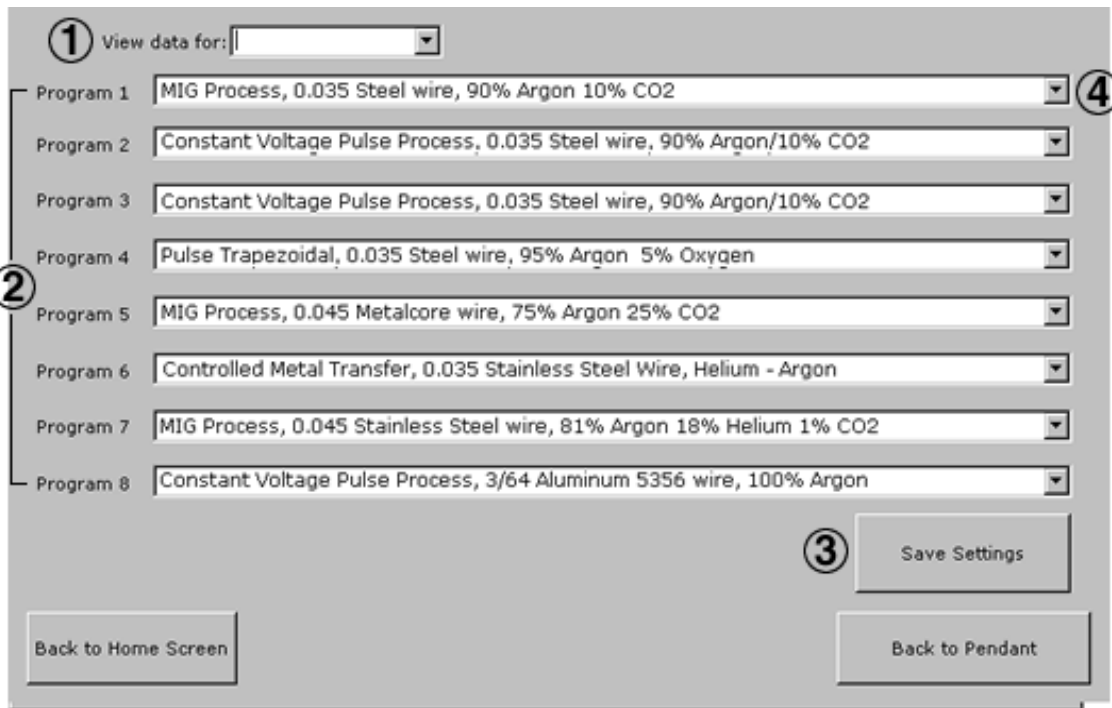

Figure 5 Program Selection Screen
The Miller Auto-Axcess DI has eight user definable weld programs (Figure 5). Each program can be configured for the process, wire size and type, and shielding gas.
- Using the stylus touch the down arrow button (4) on the right of the Program Selection Screen (Figure 5). The list of process options will be displayed.